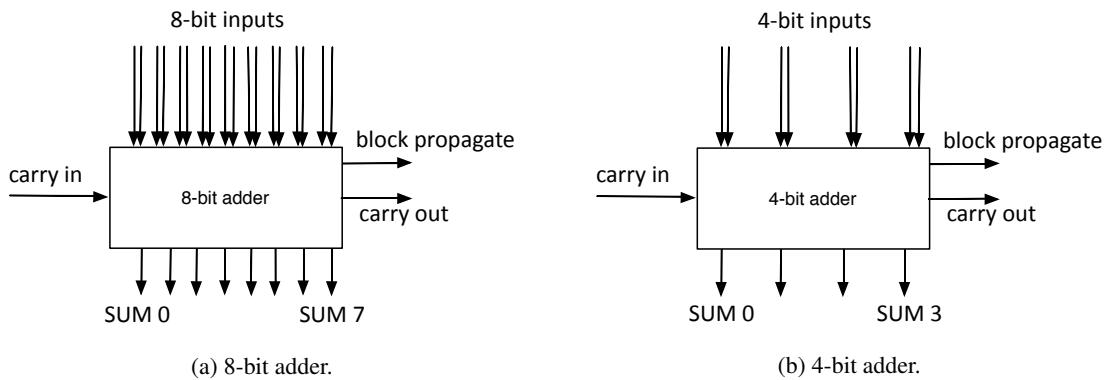

Figure 11.1: Two adders. In (a) is an 8-bit adder and in (b) a 4-bit adder.
You have designed an 8-bit adder circuit with eight SUM outputs, one carry output and one block-propagate output, as shown in Figure 11.1 (a). The propagation delays expressed in unit delays are shown in Table 11.1. You have now been asked to design a 32-bit adder with as short a propagation delay as possible. Available to you are AO, OA, AND and OR gates which each have a delay of 1 unit delay.
c) What if you also had designed a similar 4-bit adder, as shown in Figure 11.1 (b), with propagation delays given in the last column of are shown in Table 11.1. Would it be better to use the 4-bit adder rather than the 8-bit adder in your 32-bit adder? Motivate by drawing a diagram and calculating the delay. (2 p)